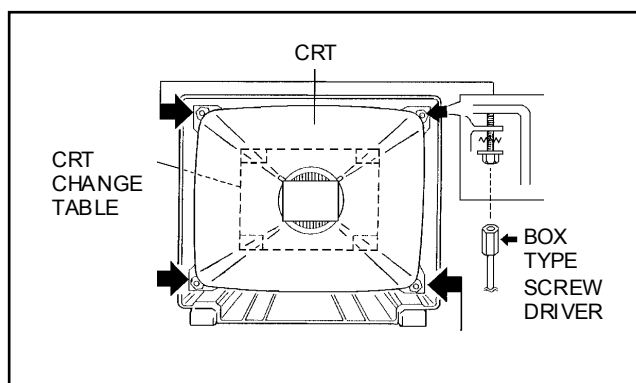

Fig. 4
2. While keeping the surface of CRT down, mount the TV set on the CRT change table balanced well as shown in Fig.4.
3. Remove 4 screws marked by arrows with a box type screw driver as shown in Fig.4.